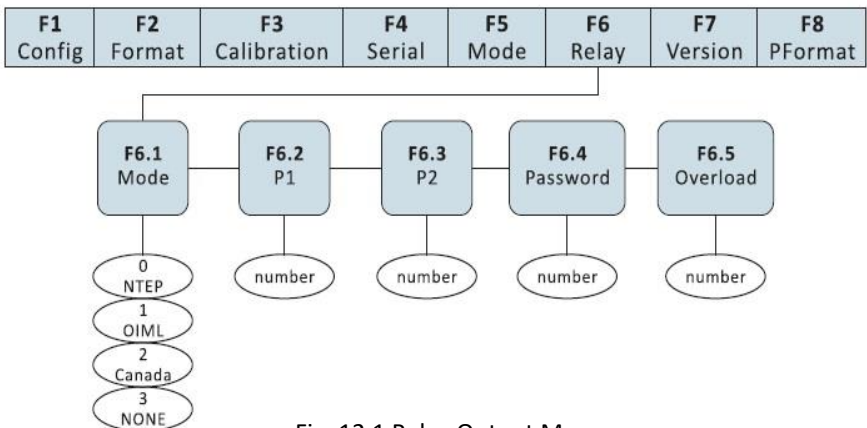

Fig. 12.1 Relay Output Menu
- (1) Move the jumper of SW2 to CFG setting to switch the indicator to Configuration mode (display will show “F1”).
- (2) Press  until display shows “F6” (see Fig. 12.1). Press  to go to the Relay Output Menu. Display will show “F6.1”.
- (3) When the display shows “F6.1”, press  to go to the F6.2 Menu.
- (4) When display shows “F6.2”, press  to enter the value for the Relay 1 setting output. When completed, press  to store the value and indicator will go to F6.3 Menu.
- (5) When display shows “F6.3”, press  to enter the value for the Relay 2 setting output. When completed, press  to store the value and indicator will go to F6.4 menu.
- (6) Move back the jumper of SW2 to DFT to exit from Configurations mode.